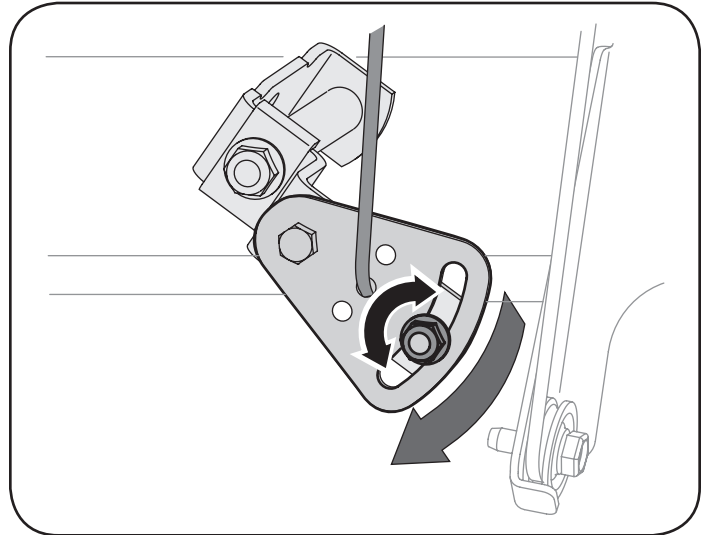

Figure 24
2. Loosen the hex nut on the shift cable index bracket. See Figure 24.